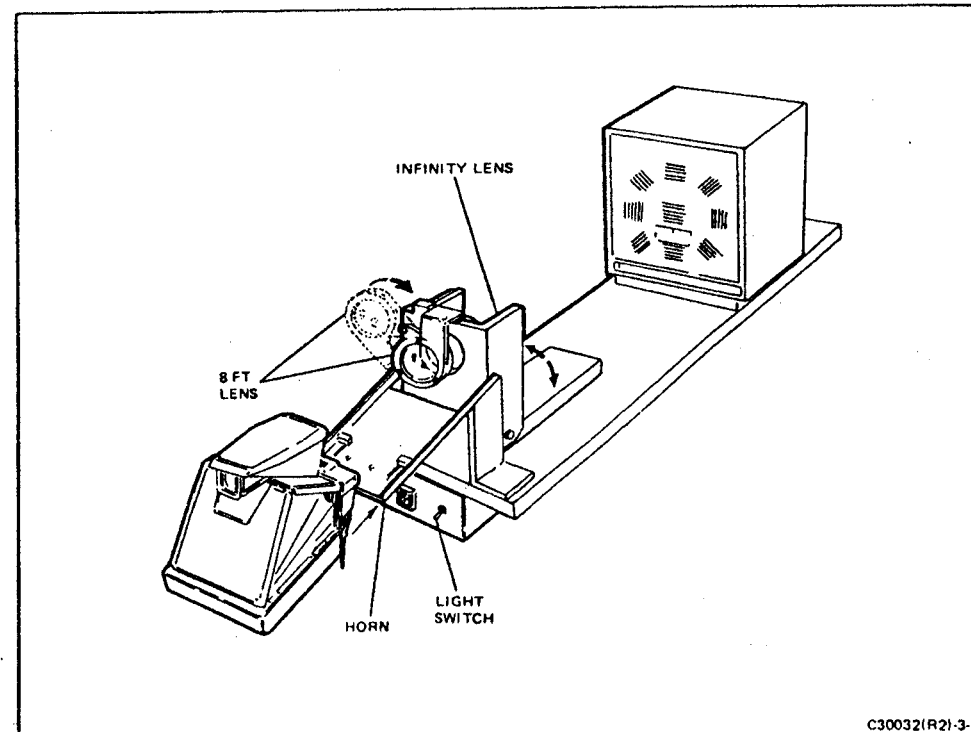
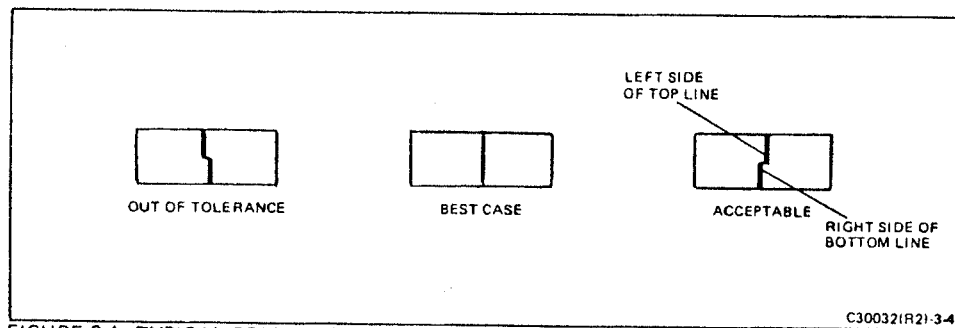

FIGURE 3-2 SX-70 COLLIMATOR
FIGURE 3-4 TYPICAL COLLIMATION CONDITIONS
## 2. Collimator (Figure 3-2)
- (1) Remove the camera front cover and load the camera onto the horn of the collimator #321564 (Figure 3-2). (The collimator uses a rear-illuminated target so no additional equipment is needed.)
- (2) Turn on the collimator light.
- (3) View the added target with the focus wheel set to infinity.
- (4) Compare the observed conditions with the examples shown in Figure 3-4. As indicated (best case), the upper part of the vertical line should be aligned with the bottom part of the line or it may be displaced to the right. (If displaced to the right (acceptable), it should still be touching the lower part of the line.)
- (5) If the upper part of the line is displaced to the right so far that it does not touch the lower part of the line or if it is displaced to the left (out of tolerance), the tolerance levels are exceeded and the camera must be rejected. Corrective procedures are outlined in Section 4.
- (6) Verify the infinity setting. Do this by observing the vertical line target through the collimator infinity lens and the camera optics. The line should be straight within the tolerance shown in Figure 3-4.
- (7) Swing the collimator infinity lens back down to its horizontal position, out of the viewing path of the camera. Turn the camera focus wheel to the 10.4" setting.
- (8) Look through the camera and observe the vertical line target. Compare the observed image with Figure 3-4 to determine if the camera is within specifications.
- (1) Set the camera focus to infinity and the L/D control to mid-range. Set the power supply to 5.8 volts.
- (2) Remove the front cover from the camera and install the S7 switch actuator.
- (3) Install the camera on the horn of the tester. The camera should go through its dark-slide cycle.
- (4) Remove the camera from the tester and set it on the collimator.
- (5) Swing the 8' and infinity lenses into their vertical positions on the collimator and look through the camera eyelens.
- (6) Turn the focus wheel until the vertical line in the center target is straight (refer to Figure 3-4). The camera is now collimated for the 8' setting. Tape the focus wheel so it can't be accidentally moved.
- (7) Remove the camera from the collimator and place it on the tester.
- (8) Install the flash simulator plug into the socket on the camera and close the S2 CLOSE-OPEN SWITCH.
- (9) Set the light level selector to 800 cdl/ft2.
- (10) Set the flash mode aperture switch to 8'.
- (11) Block any light from the photocell on the camera using a square of cardboard or other material.
- (12) Depress the exposure button and observe the APERTURE meter.
- (13) Record the 8' APERTURE reading and compare it to the STANDARDS Chart.
- (14) Remove the tape from the focus wheel and rotate the wheel to the 10.4" setting.
- (15) Set the flash mode aperture switch to 10.4'.
- (16) With the photocell still blocked, press the exposure button and observe the APERTURE meter.